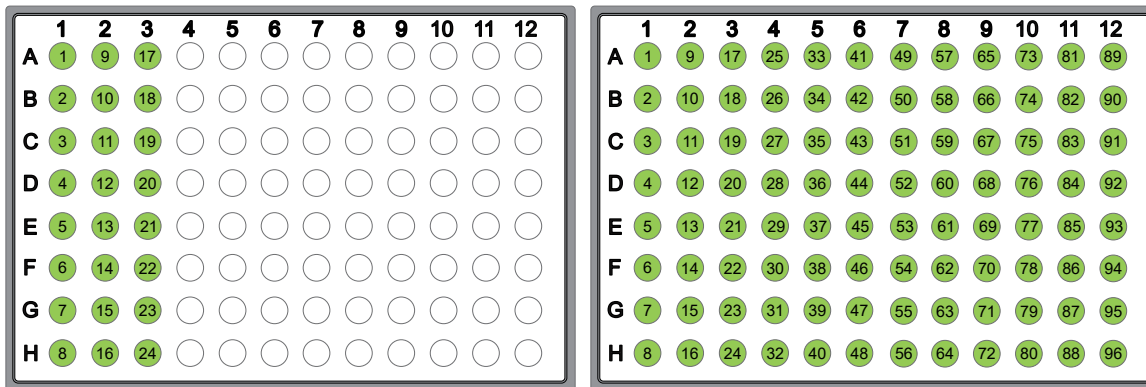

Figure 1 Plate map
5. Pierce the foil above the desired well of the Barcode Plate (see Figure 1) with a pipette tip. With a new tip, withdraw 5 µL of the Ion SingleSeq™ Barcode Adapter, then add to the appropriate sample (50-µL final volume). Repeat for each sample. Each Barcode Adapter is single-use only.